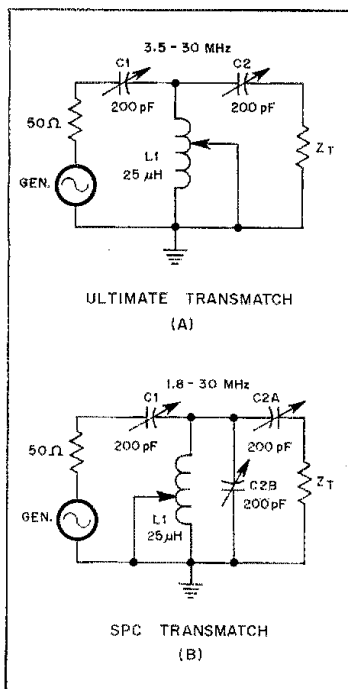
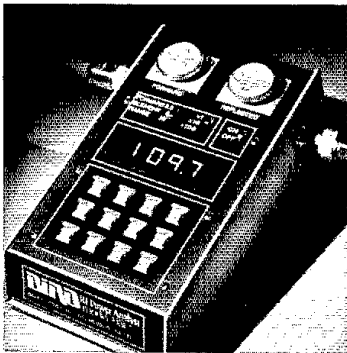

Fig. 1 — Circuit of the Ultimate Transmatch (A) and the SPC Transmatch (B).
Fig. 6 — The Bird Model 4381 RF Power Analyst. A collapsible bail permits positioning the unit for easy readability.
□ In Fig. 1 of "Increasing Receiver Dynamic Range," May 1980 *QST*, page 17, L5 is a ferrite bead, not a 10- μ H inductor as shown. In the lower right corner of Fig. 6, a wire connects the right side of a 1000-pF capacitor and a 1-k Ω resistor to the +5-V bus. This wire should be replaced with a 1-k Ω resistor. In the text above Fig. 6, the references to a BF246 and a BF246C should refer to a U311 transistor. The reference to a BC177 should refer to a 2N2907.
Fig. 1 — The Swan Astro-150 and matching power supply/speaker unit. The "Variable Rate Scanning" knob is the large one in the center of the panel. The microphone shown is included in the price of the Astro-150. Frequency tuning can also be accomplished by using two buttons (not visible) on the top surface of the microphone.